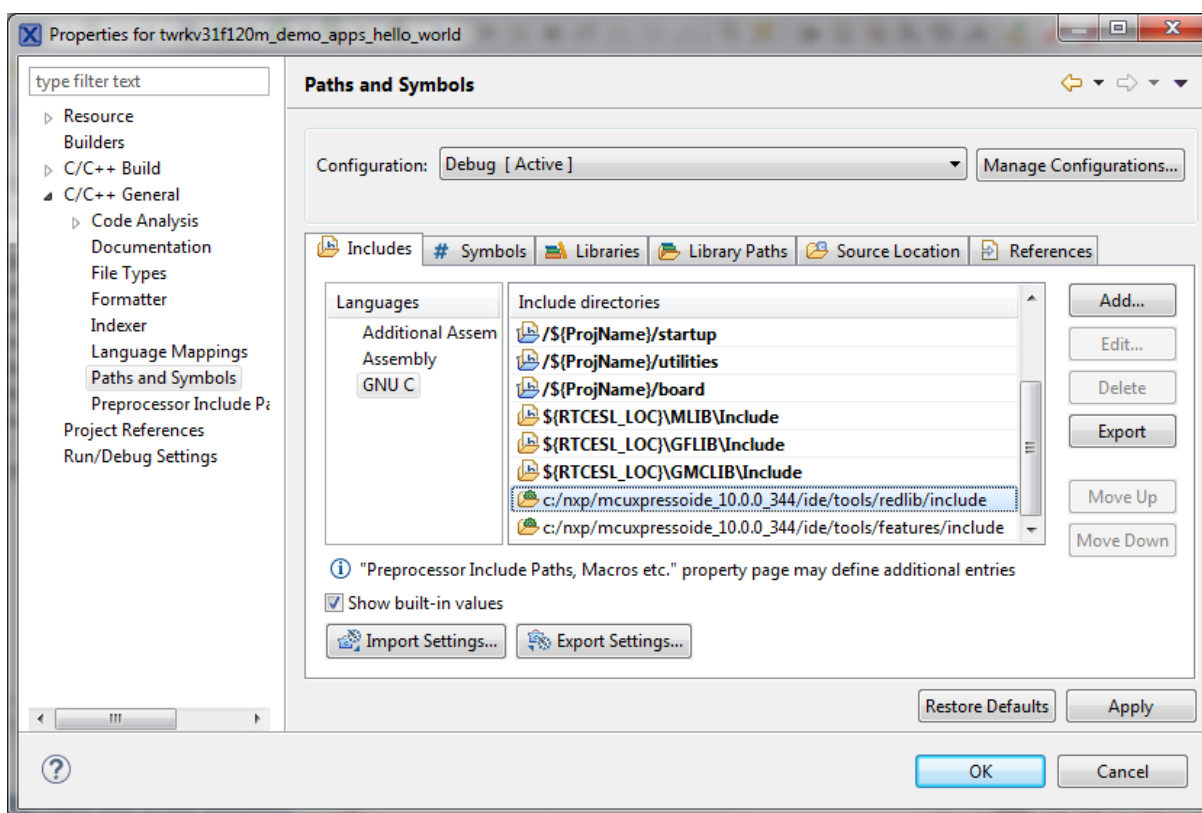

Figure 1-13. Compiler setting
19. In the right-hand dialog, select the Includes tab, and click GNU C in the Languages list. See Figure 1-13.
26. Click OK, and you will see the paths added in the list. See Figure 1-13. Click OK.